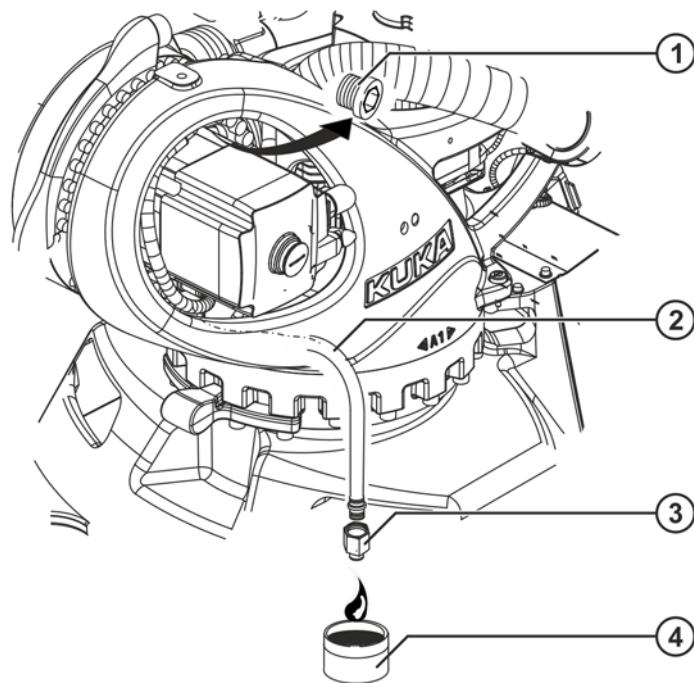

Fig. 9-5: Draining the gear oil from A2
1. Pull the oil drain hose (>>> Fig. 9-5) out of the rotating column.